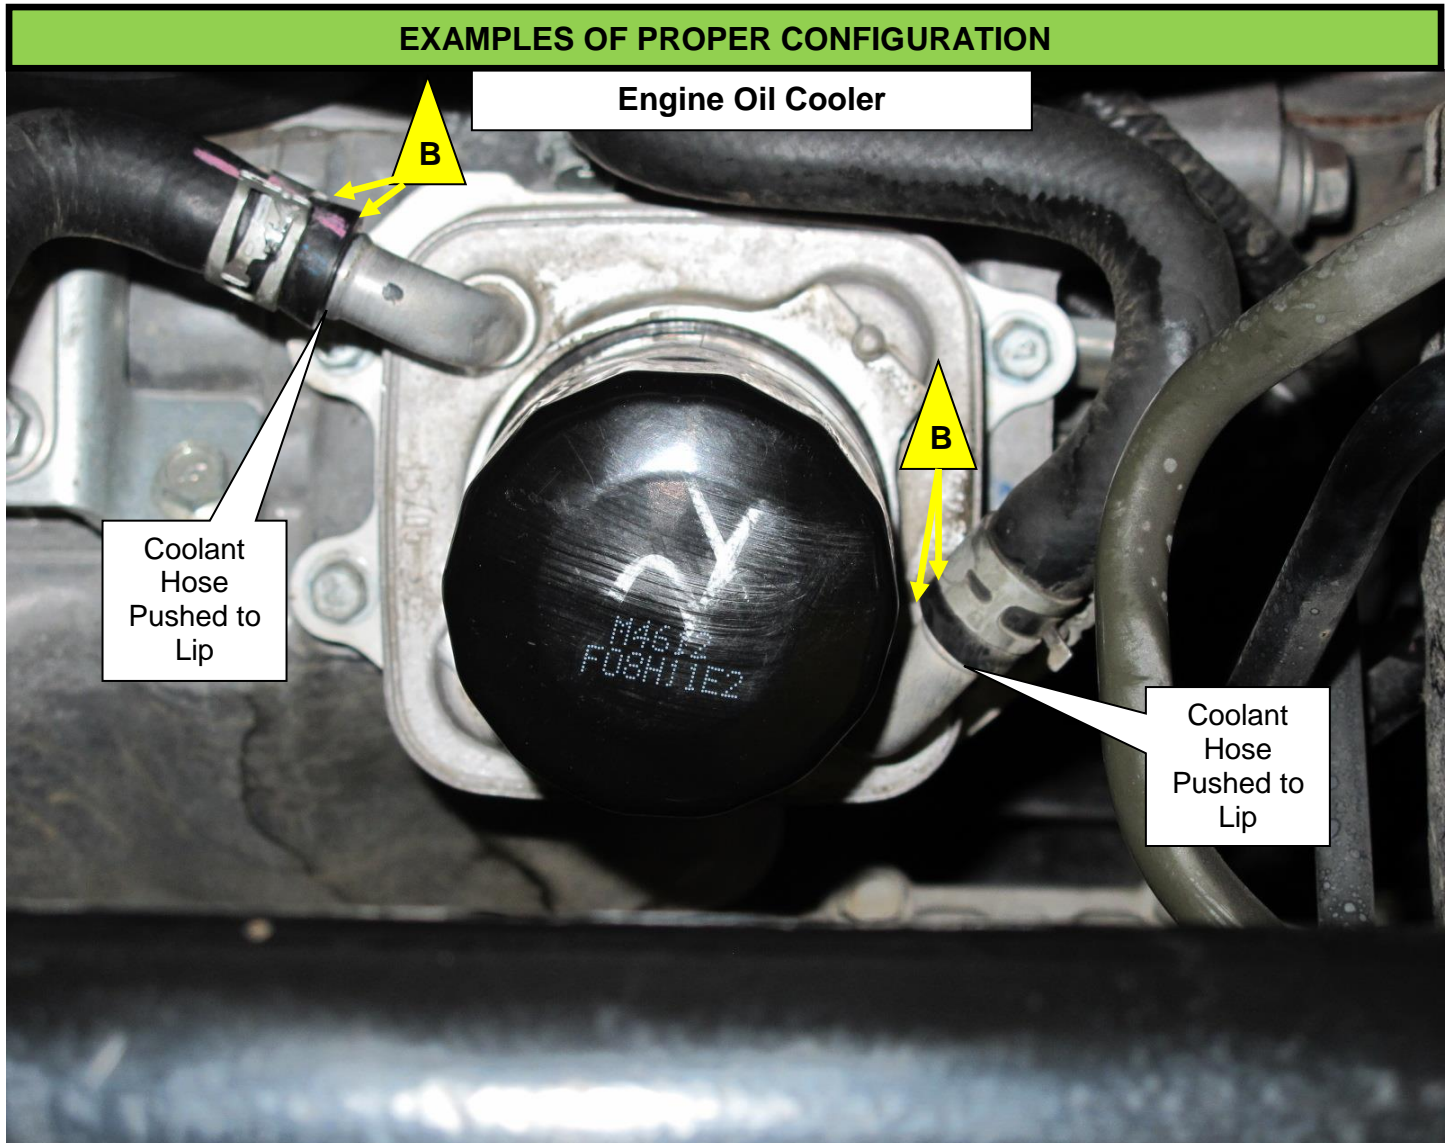

Figure 11
9. Inspect **two** engine oil cooler hoses for proper configuration (Figure 11).
11. CORRECT ANY ENGINE OIL COOLER HOSES NOT PROPERLY INSTALLED, REFERENCE STEP 9 (FIGURE 11).